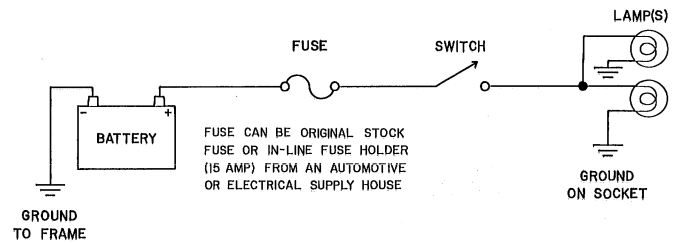

FIGURE 5
STEP 5. Connect terminals on right side switch to existing back-up light wires. Use 3/16" female slip-on connectors supplied with kit. Connect one wire (it doesn't matter which one) to the bottom terminal; it is marked "com" on the plastic switch body. Connect the other wire to the terminal on the back of the switch marked "no". On the back of the switch, the top terminal, marked "nc," is NOT used. If your original back-up light switch was built into the steering column, use the 6 ft. of hook-up wire and two butt-splices to connect your Back-Up Light Switch to your vehicle's original wiring. If you are installing back-up lights in a vehicle that was not originally equipped with back-up lights, connect the switch between the ignition switch terminal marked "Ign" and the back-up lights. Refer to Figure 5.